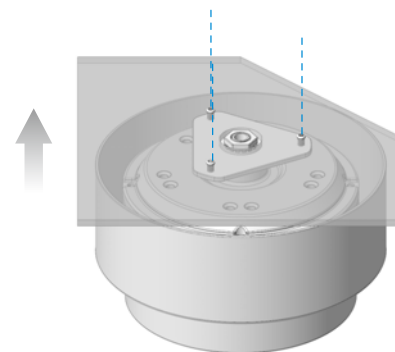

Fig. 1.1
1.1 Remove the motor parts from the box. Use a screwdriver to loosen the three light kit assembly screws from the MDF and remove the MDF as shown in Fig. 1.1. The MDF is used to protect the motor hub during transportation. Keep the screws for later use.